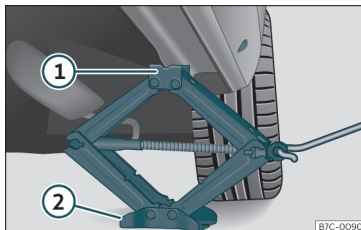

Fig. 34 Cross member: positioning the jack on the vehicle.
- Turn the jack* crank handle, located below the strut support point, to raise it until the tab ① >>> Fig. 34 is below the housing provided.
- Align the jack* so that tab ① “grips” onto the housing provided on the strut and the mobile base ② is resting on the ground. The base plate ② should fall vertically with respect to the support point ①.